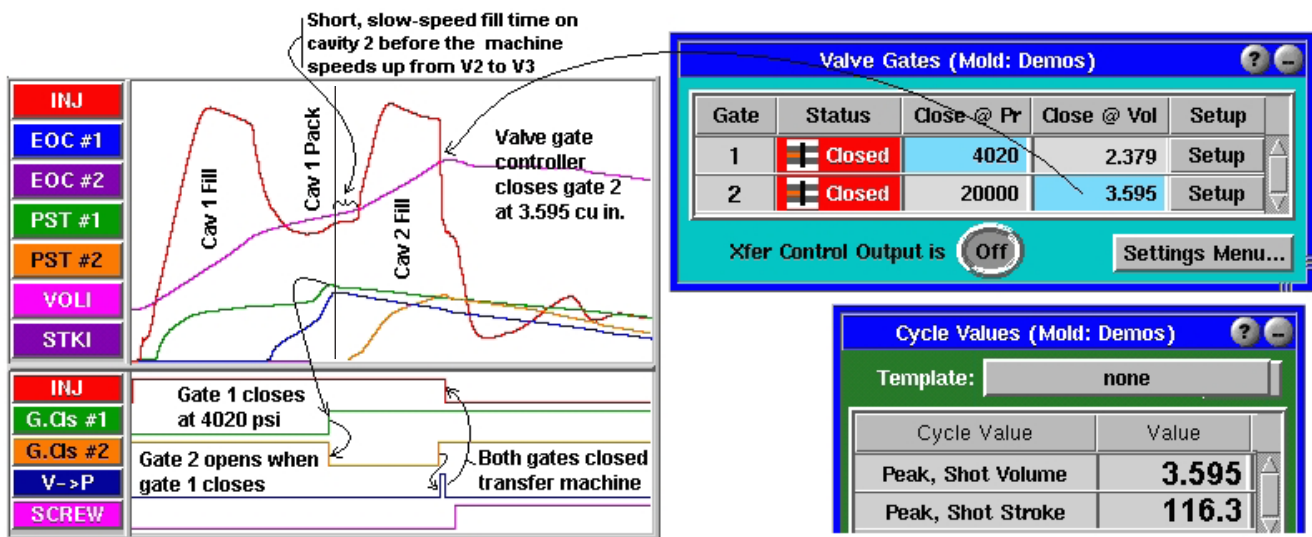

Figure 28: Cavity 2 Short Shot
- * On the Cycle Graph, you should see something similar to the graph shown in Figure 28. Place your cursor at the point where valve gate 1 closes. Now look at the Injection Volume curve. The kink in the graph where V2 changes to V3 should happen slightly after this. Adjust the V2-V3 transfer position on the press until it occurs just after the first valve gate has closed.